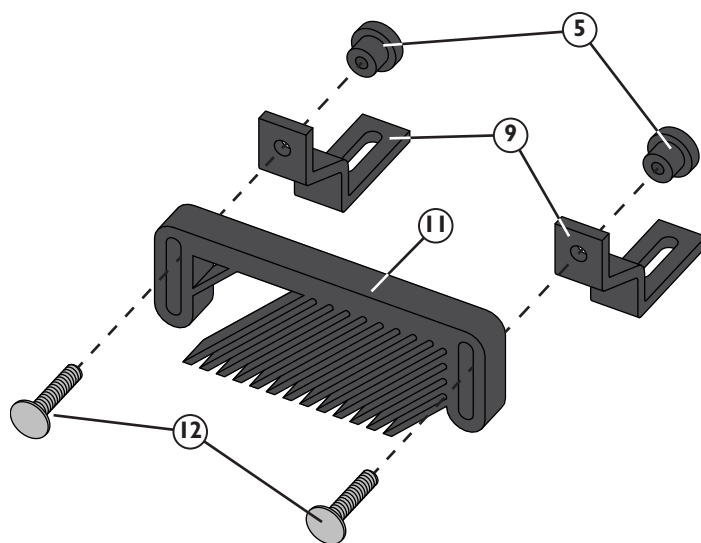

Fig. 2 - Featherboard Assembly
5. Attach the Featherboard Brackets (9) to the Featherboard (11), using the two Carriage Bolts (12) and Knurled Knobs (5). **Fig. 2.**